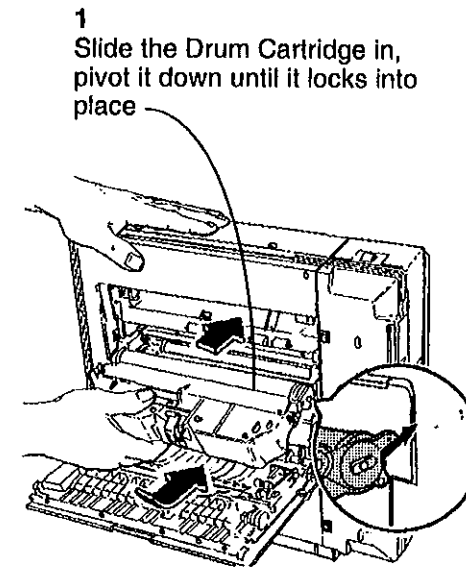

Figure 3. Reinstalling the Drum Cartridge
- 1 (Figure 3) Slide the Drum Cartridge into the copier and pivot the Drum Cartridge downward until it locks into place